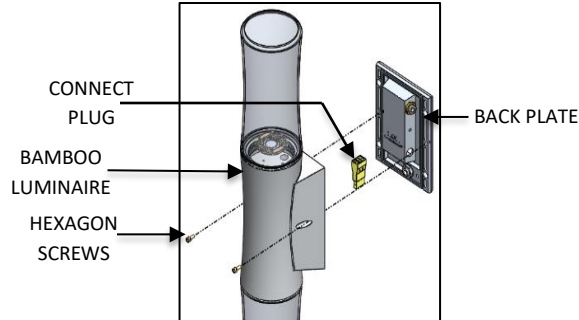

FIG. 5- MOUNTING
2. Unscrew HEXAGON SCREWS provided and disconnect the QUICK CONNECT PLUG from the FIXTURE BODY and the BACK PLATE as shown in FIG 5.